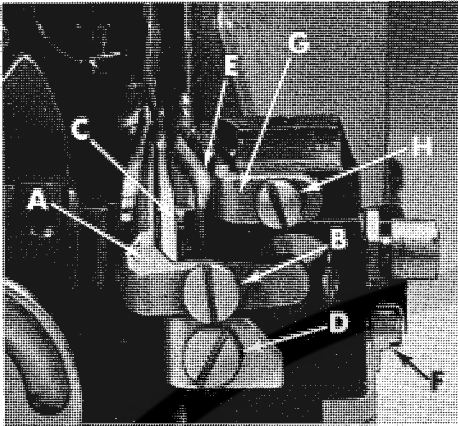

Fig. 9
When overedge lower looper point is at needle scarf, set overedge rear needle guard (A, Fig. 9) so that it touches but does not deflect the needle, .000 to .004 inch (.000 to .102 mm) clearance. Check to ensure that needle guard does not interfere with lower looper or movement of the lower knife holder. Screw (B) is used to set the rear needle guard. The needle thread is to be free to pass through the needle eye without being pinched by the needle guard with the needle down.
With needle at bottom position, set front overedge needle guard (C, Fig. 9) to touch but not deflect needle, .000 to .004 inch (.000 to .102 mm) clearance. Guard should not pinch thread in needle eye. Screw (D) is used to set front needle guard. After making adjustment, make sure there is no inter-
Insert rear needle guard into the hole in the throat plate support bracket. When 401 looper point is at the center of the needle scarf, set 401 rear needle guard (E, Fig. 9) so it touches but does not deflect needle, .000 to .004 inch (.000 to .102 mm) clearance. This guard setting will be approximately 3/16 to 7/32 inch (4.76 to 5.56 mm) below throat plate seat. With needle in down position, guard should not pinch thread in needle eye. Then lock the guard in place with set screw (F).
With needle at bottom position, set front 401 needle guard (G, Fig. 9) to touch but not deflect needle, .000 to .004 inch (.000 to .102 mm) clearance. Guard should not pinch thread in needle eye. Check for clearance between 401 looper and front 401 needle guard. Turn handwheel in operating direction, making complete revolutions to check whether needle is disturbed or pinched. Lock with screw (H).